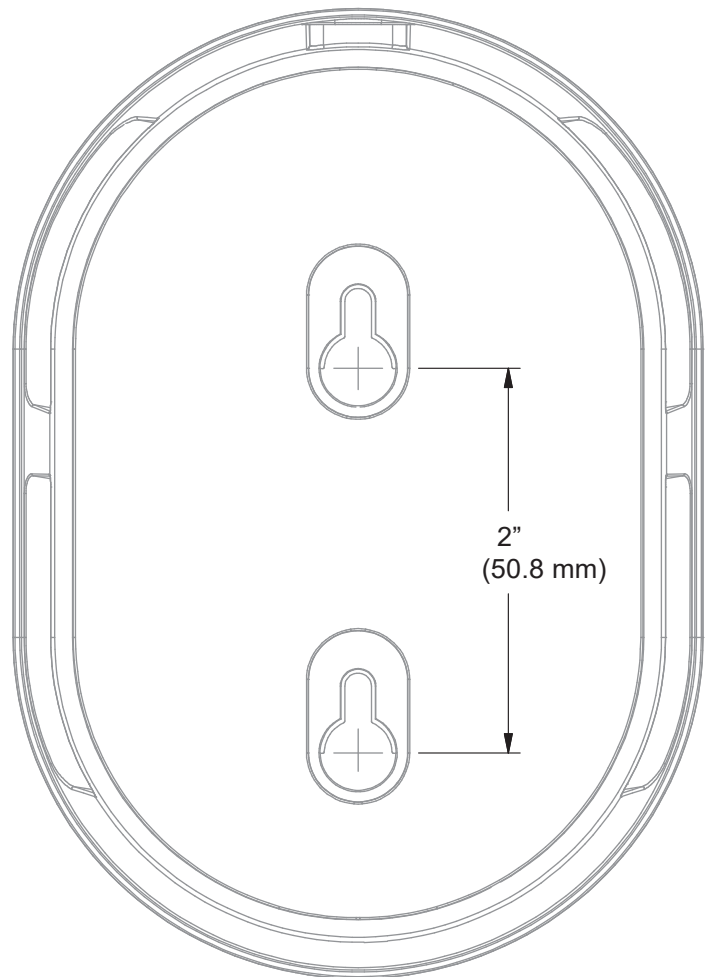

Fig. 5.5
1. Hold template (Fig. 5.5) against wall.